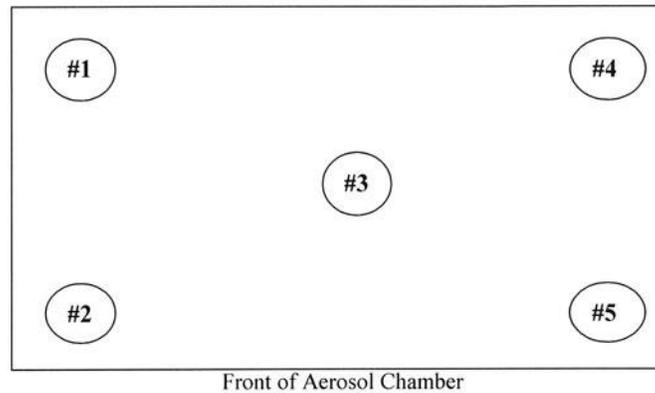

FIGURE 2
- 6.7 Five (5) samples of 5 cm x 5 cm gauze were placed in the aerosol chamber on petri plates. One (1) sample was placed in each corner and one (1) in the center per Figure 2.